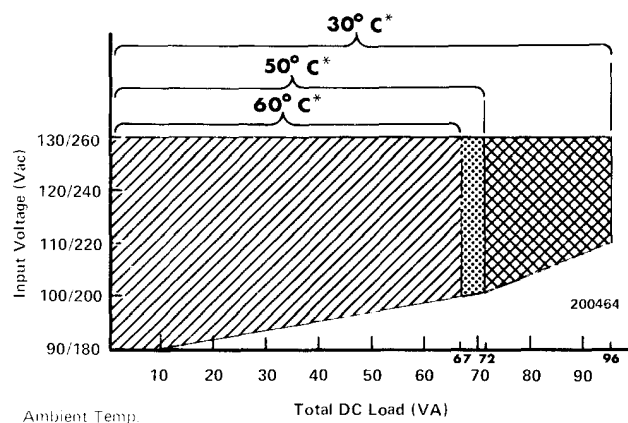

Fig. 2.1. Maximum Safe Operating Range.
**DC OUTPUT** Output at the following ratings +12 V at 2 A, -12 V at 2 A, +24 V at 1 A, -24 V at 1 A, maximum output power to 50°C ambient, 72 VA; operation to 60°C ambient with current derated not more than 3%/°C. Under certain conditions the 72-VA power limitation may be exceeded to a maximum of 96 VA (see Fig. 2.1).
The available current from the Power Supply is specified by TID-20893 (Rev.), Appendix A, Type 1, Class A, supply. Under certain conditions these specifications may be exceeded (see Fig. 2.1.) Care must be used to ensure natural convection of heat dissipated by the heat sinks and power transformer. For best results, when using at maximum power loadings the Bin and Power Supply should be